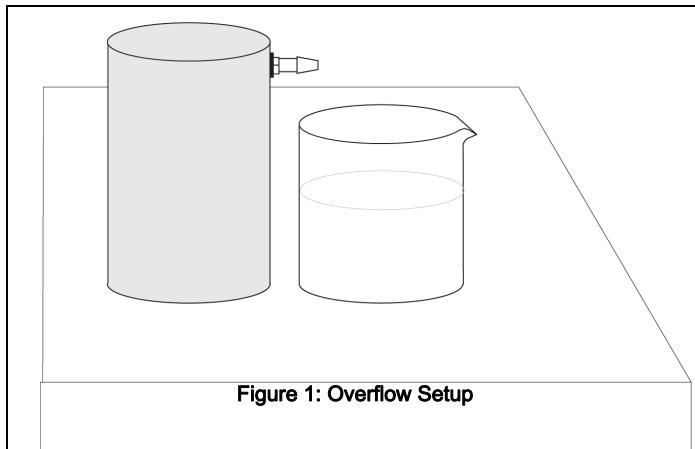

Figure 1: Overflow Setup
1. Put the beaker under the overflow can spout as shown in Figure 1.
- Put the beaker under the overflow can spout as shown in Figure 1 (from Experiment 1).
- Find the mass of the empty beaker in kilograms and record this at the top of Table 3.1. Put the beaker under the overflow can spout as shown in Figure 1.